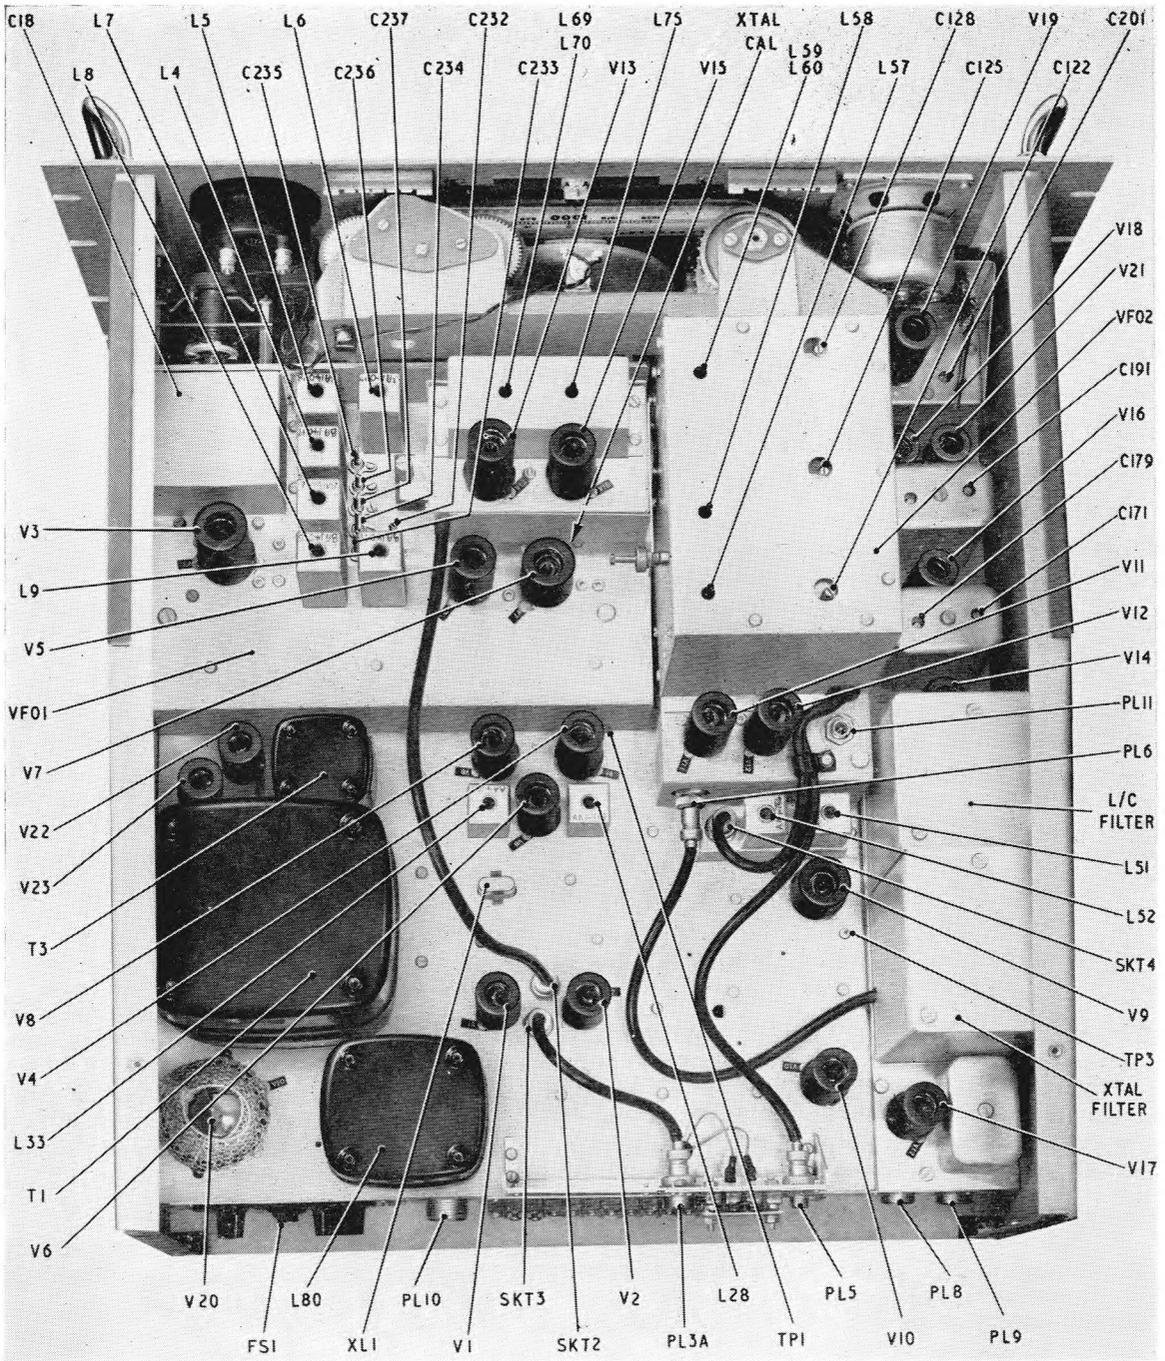

Fig. 1. Top view of receiver radio 5820 - 99 - 999 - 9292 - chassis
6. With the exception of para. 10 to 12 of the first part of this chapter, the details given are identical for 9292. An illustration of the chassis (top) is shown in fig. 1.